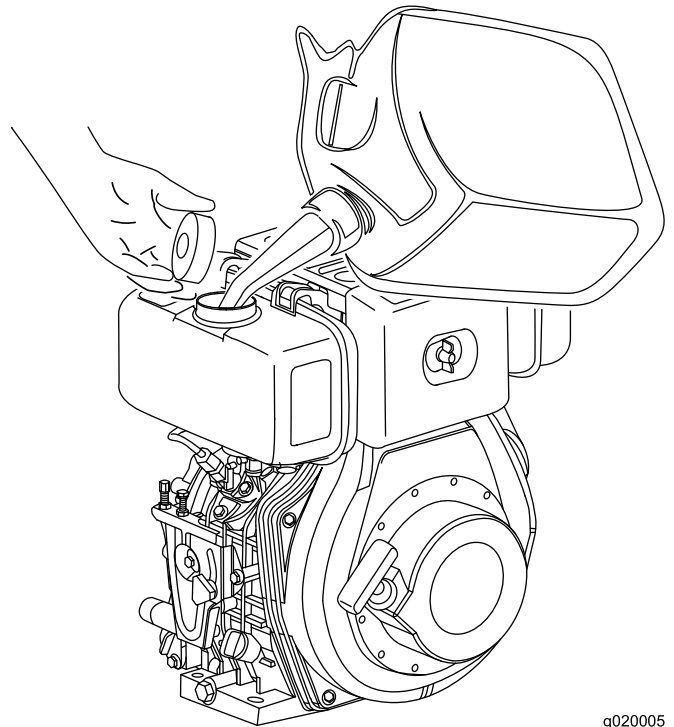

Figure 22
3. Add fuel to the fuel tank until the level is up to the red ring (Figure 22).